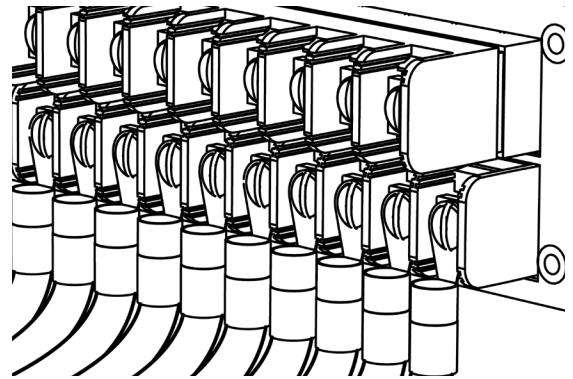
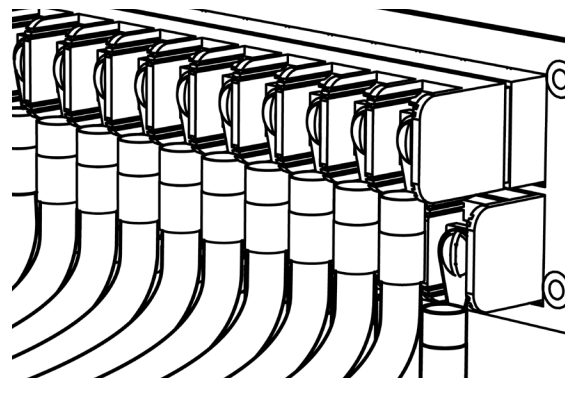

Figure 15. RTN output wires
Figure 16. HOT output wires
- Step 1.** Connect the wires to the equipment loads to be fed by the panel fused outputs to these terminal block connections. The RTN (+) wire connects to the bottom terminal (see Figure 15) and the HOT (-) wire connects to the top terminal (see Figure 16) for each fuse position.